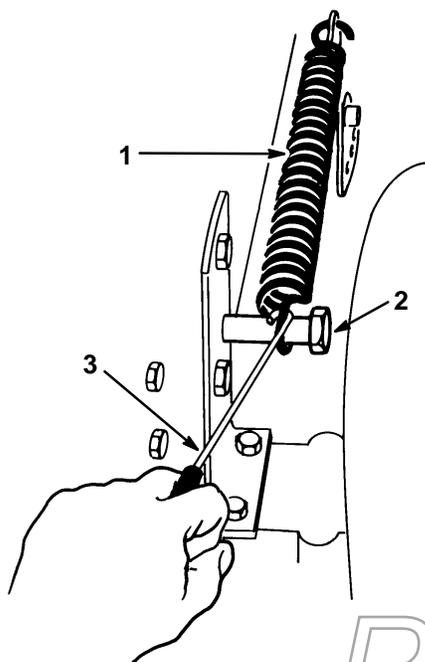

Figure 38
4. Remove the height-of-cut lift assist spring from the retaining bolt (Fig. 38), using the spring tool provided with the machine. The spring is between the frame and the right rear wheel.
13. Move the height-of-cut lever (deck lift) into the "D" notch. Hook lift assist spring onto retaining bolt for storage (Fig. 38).
- Hook the height-of-cut lift assist spring onto the retaining bolt (Fig. 38), using the spring tool provided with the machine.